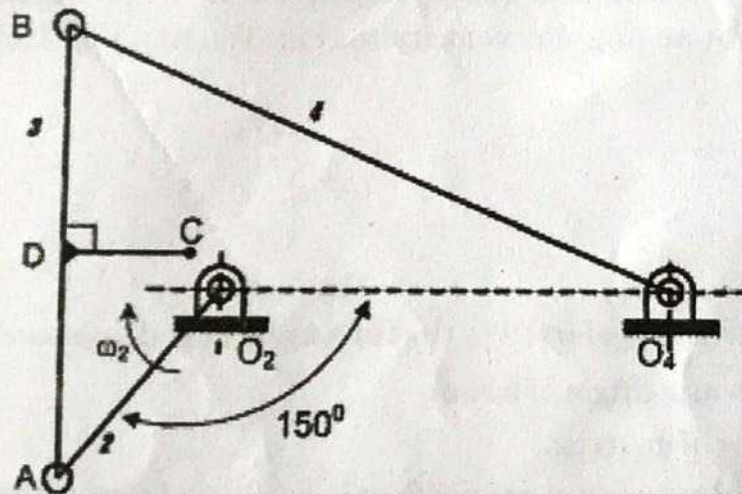

Fig. 3
- ii) With neat sketches, explain the Peaucellier and Watt mechanisms of straight line generation. (8)
12. a) Crank 2 of the push-link mechanism shown in Fig. 3 is driven at $\omega_2 = 60$ rad/s clockwise. Find the velocities of points B and C and the angular velocities of links 3 and 4.